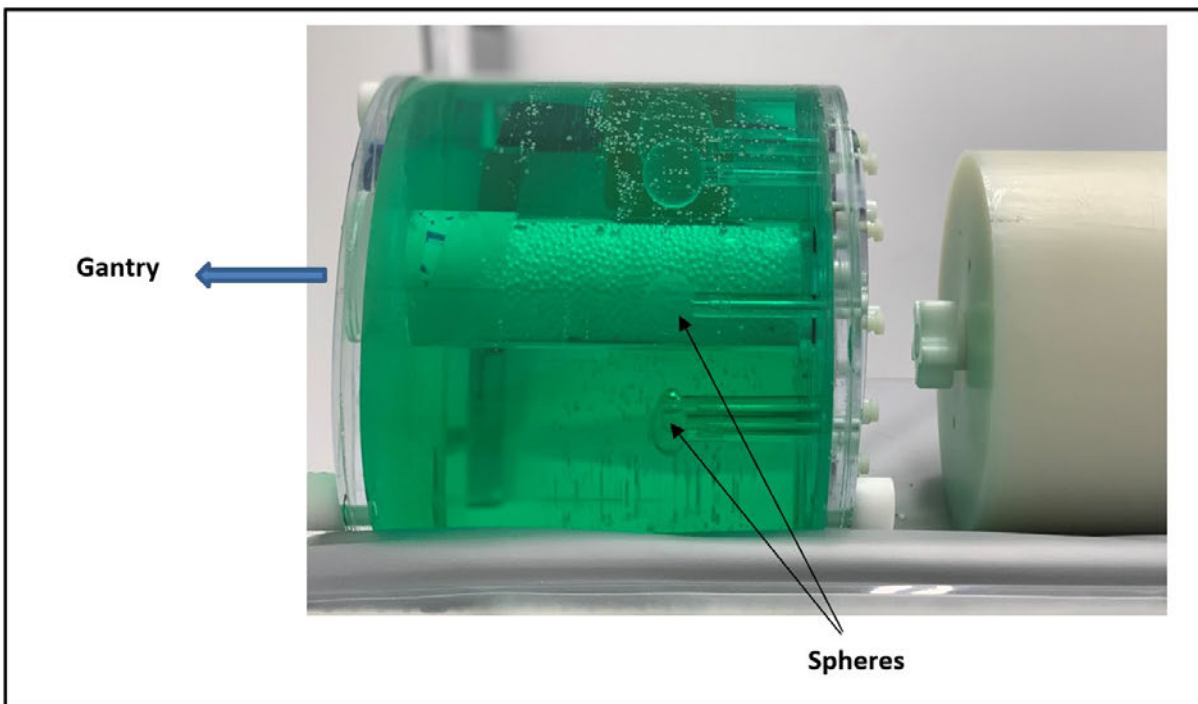

Figure 4.7: Image Quality Phantom Orientation.
1. Refer to Figure 4.7. Position the Image Quality phantom on the cradle and orient it so the spheres are next to the scatter phantom. Position the front edge of the phantom back 15-20 cm from the front edge of the table.